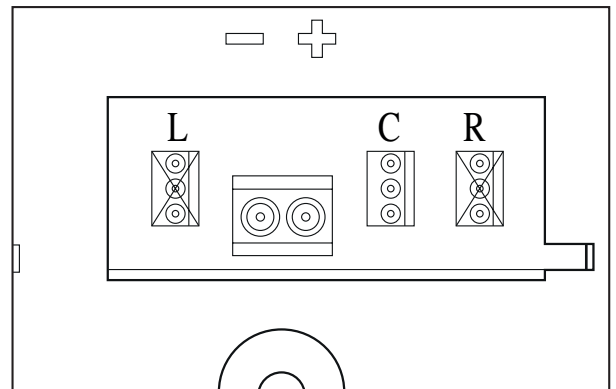
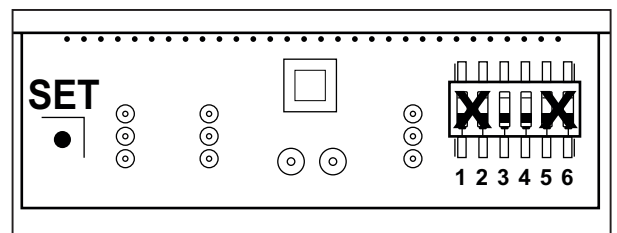

Fig. 1
Fig. 2
STEP 2: Single tank has only one plug (centre 'C' plug on the back in Fig. 1) and only position 3 and 4 are needed (see Fig. 2). DIP position 3 is used to set EMPTY and DIP position 4 is used to set FULL.